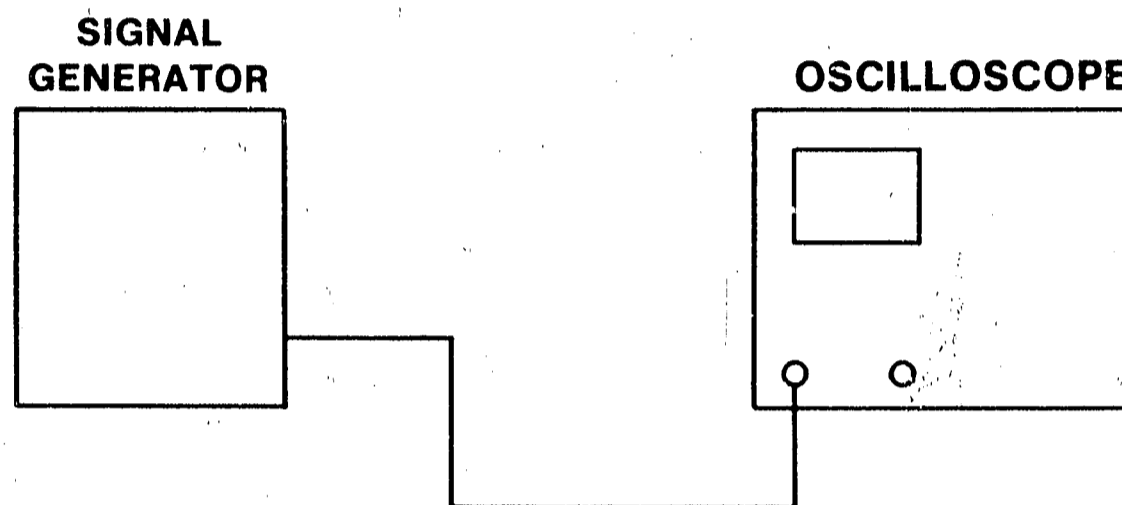

Figure 4-11. Writing Rate Test Setup
- a. Connect equipment as shown in figure 4-11.